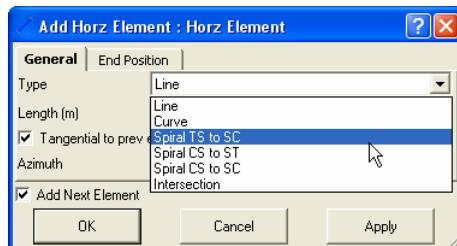

Figure 9-40. Select Spiral Direction
- To add a spiral, click **Add Horz Element** and select the direction of the spiral in the *Type* field of the **Add Horz Element** dialog box (Figure 9-40 on page 9-24).